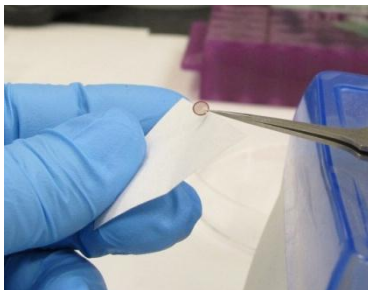

Figure 3. Wicking liquid from the grid.
- 8) Wick away liquid from the grid using a wedge of filter paper placed at the edge of the grid (Figure 3)